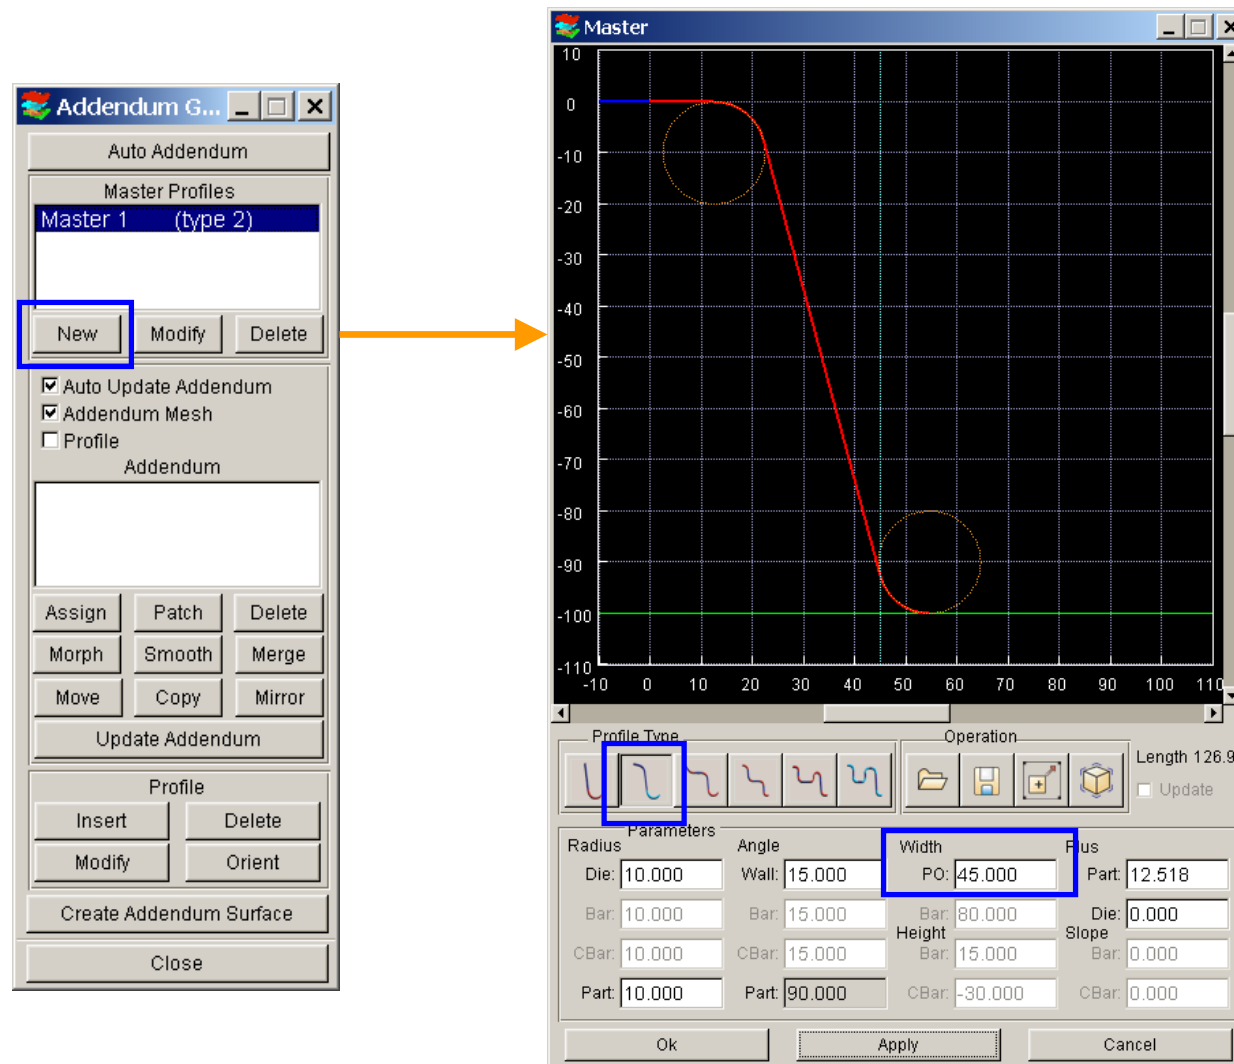

Figure 3.8
- c) Click **New** (Master Profiles) (See Figure 3.8)